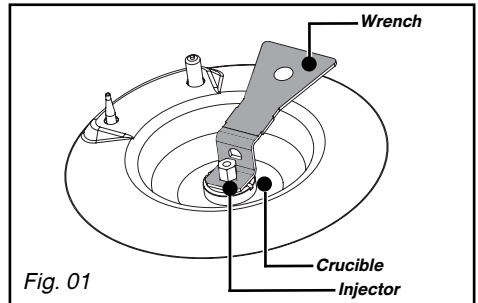

Fig. 01
– **Connection with a flexible metal hose** (stainless steel) **with screw-on mechanical connectors** (compliant with NF D 36-125 standard) whose service life is unlimited (Fig. 01).
- Using the wrench provided, unscrew the injectors located under each crucible and remove them (Fig. 01).